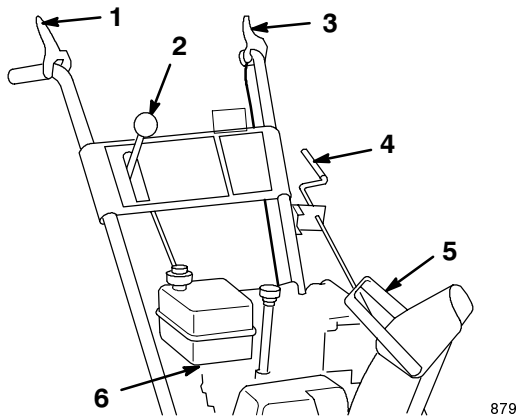

Figure 6
2. Move the speed selector (Fig. 6) on the control panel to the *R (Reverse)* position.
2. Adjust the two flange nuts up or down on the traction rod until the distance between the top of the handgrip and the bottom of the traction control lever (Figs. 6 and 7) is approximately $4\frac{3}{8}$ inches (11 cm).
4. Move the speed selector (Fig. 6) into third gear.
3. Check the distance between the top of the handgrip and the bottom of the auger/impeller drive control lever (Figs. 6 and 9). The distance should be approximately four inches (10 cm).